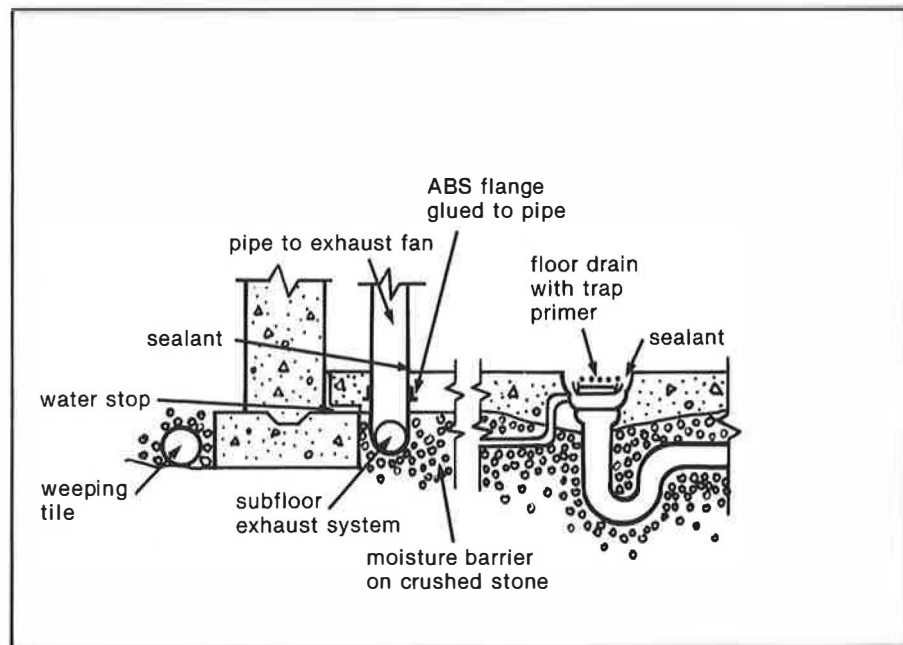

Fig. 13. Sub-slab venting for radon control.
- Provide additional spot ventilation at major pollutant sources, such as exhaust fans for dark rooms, range hoods for cooking, and sub-slab venting for radon gas control (fig. 13).